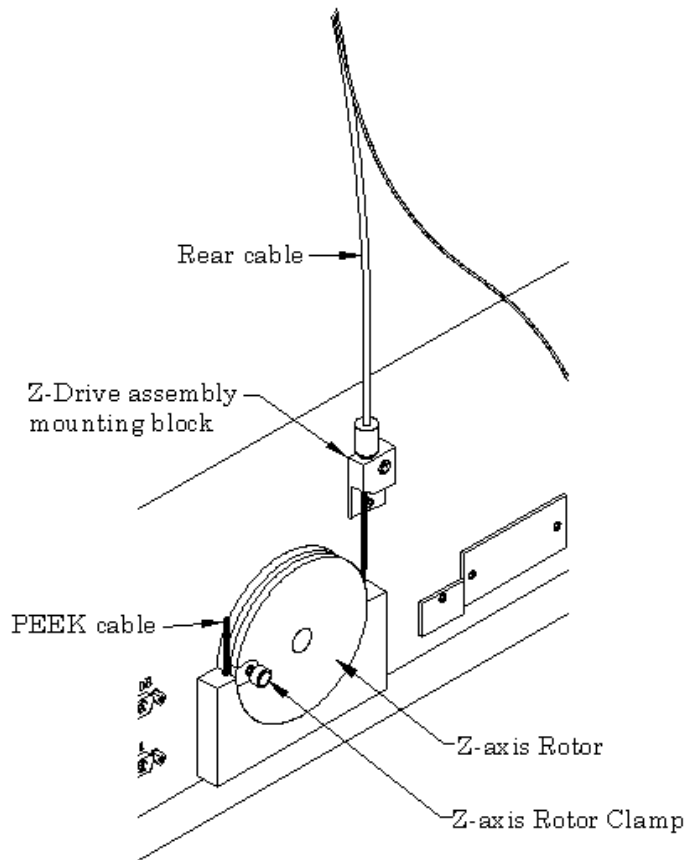

Figure 3–2. Back View of Auto Sampler Showing Z-Axis Rotor and Mounting Blocks.
- 1 Install a clamp in the slot on the z-axis slider (Figure 3–1).**
- 2 Install the sample probe through the slider block and push through the clamp (Figure 3–1).**